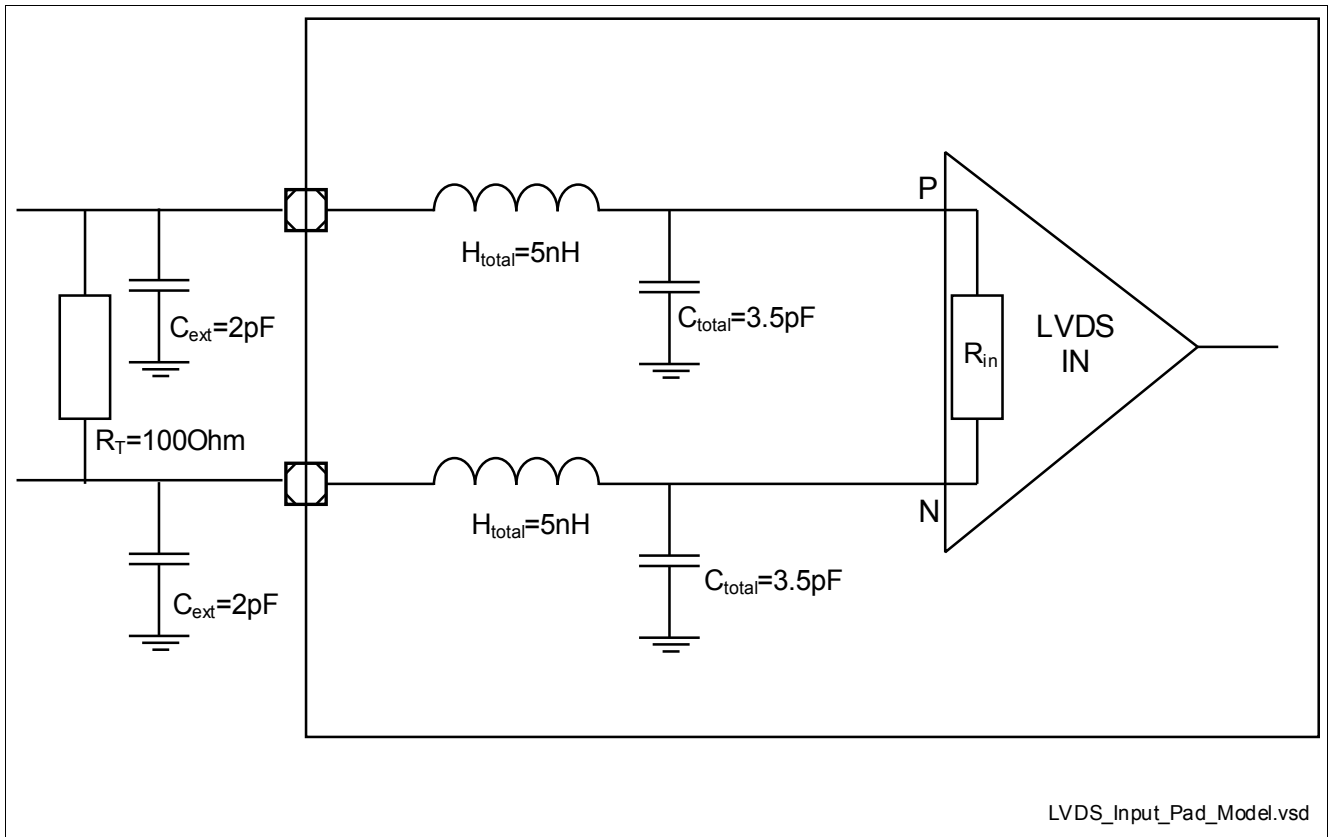

Figure 3-1 LVDS pad Input model
*Note: R_T in table 'LVDS - IEEE standard LVDS general purpose Link (GPL)' is as termination resistor of the receiver according to figure 3-5 in IEEE Std 1596.3-1996 and is represent in **Figure 3-1** either by R_{IN} or by $R_T=100Ohm$ but not both.*